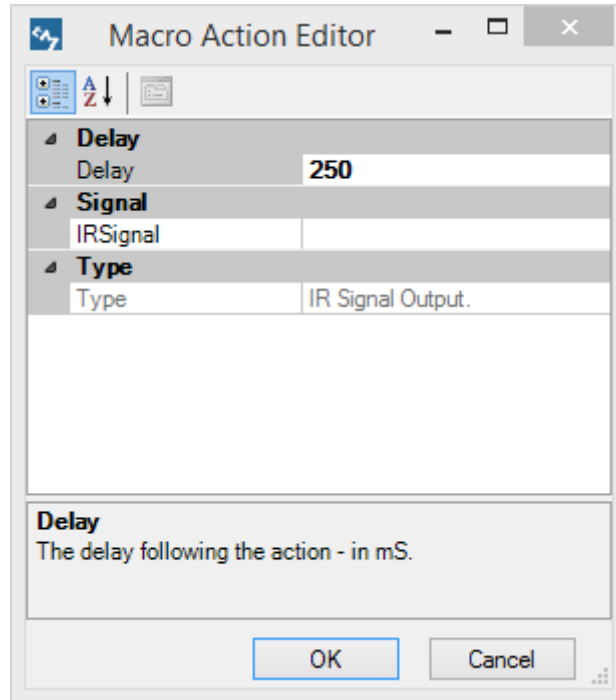

Figure 10. Dialog box for adding a signal to a macro
3. In the right-hand pan, right-click and select *Add Action*, which will bring up the action dialog box shown in Figure 10.